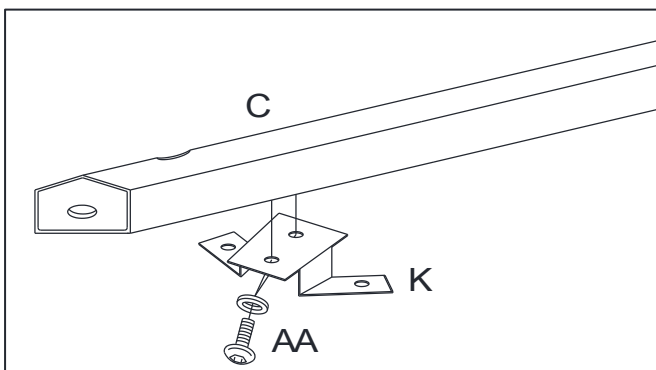

Fig.7
7. Attach Top Connector (K) to Long Top Bar (C) with Bolt (AA). See Fig.7.